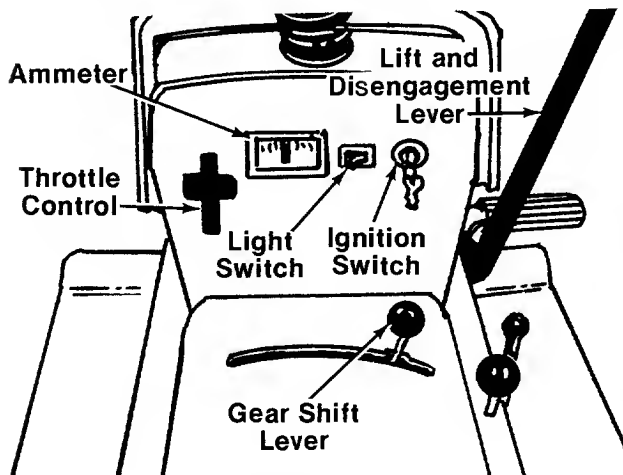

FIGURE 14.—Models 638 and 698 Shown
The throttle control is used to regulate the engine speed and to activate the choke on the engine. To get maximum efficiency from cutting, the throttle should be in the FAST position when operating the mower. Pushing the throttle all the way forward past FAST, will choke the engine. See figure 14.
The gear shift lever is used to shift into one of the forward gears, "NEUTRAL" or "REVERSE." See figure 14.
Turn the key to the "START" position to start the engine. When the engine is running, let the key return to the "ON" position. To stop the engine, turn the key to the left to the "OFF" position and remove it to prevent accidental starting. See figure 14.
Push the light switch to turn on the lights. The lights will only operate when the engine is running. See figure 14.
The ammeter registers the rate of battery charge or discharge. The ammeter will register on the discharging side when starting the engine. It should register on the opposite side (charging) when the engine is running in the fast position until the battery is completely charged. With a fully charged battery or with the engine idling, the ammeter will not show a charge. See figure 14.
The lift and disengagement lever is used to raise and lower the cutting deck. Pulling it all the way back and locking it disengages the blades. The lift and disengagement lever **must** be in the disengaged position when starting the engine and when shifting into reverse. See figure 14.
4. Set the throttle control in the CHOKE position. See figure 14.
5. Turn the ignition key to the "START" position. When the engine is running, let the key return to the "ON" position. See figure 14.